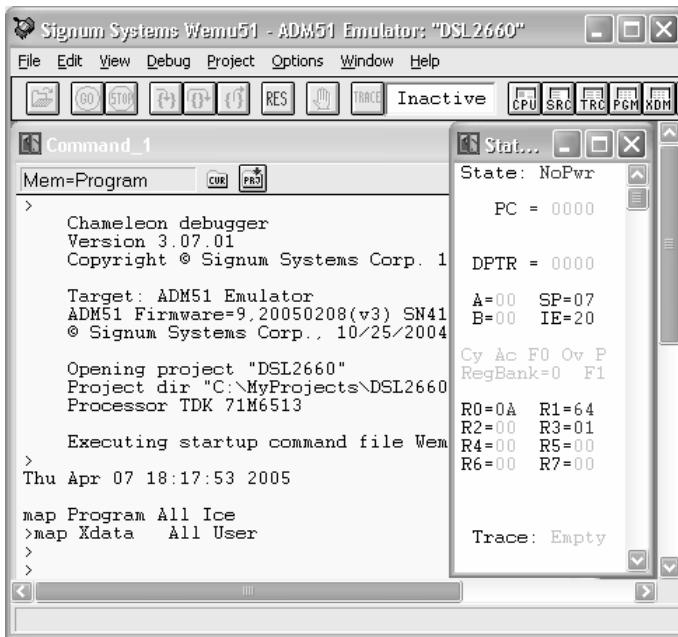
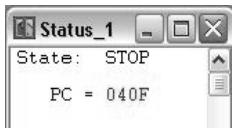

FIGURE 10 Chameleon WEMU51 detects the No Target Power condition.
FIGURE 11 Target Power On and CPU Stopped condition acknowledgement.
13. If you have not turned the target power on, the Status window displays the NoPwr state in, and the Command the “No Target Power” message appears in the Command window (Figure 10). If this is the case, turn power the emulator now. Chameleon acknowledges the power-on state in the Status window by displaying STOP as the processor state (Figure 11). It is recommended to keep the Status window opened permanently for monitoring the status of the processor and important processor registers.